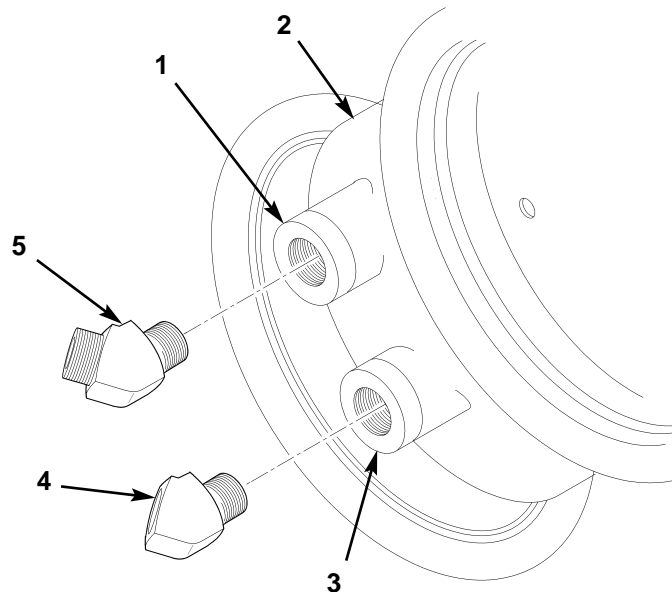

Figure 4. Removing Elbows.
6. Remove elbow (figure 4, item 5) from parking brake port (figure 4, item 1) and remove elbow (figure 4, item 4) from service brake port (figure 4, item 3) of spring brake chamber (figure 4, item 2).